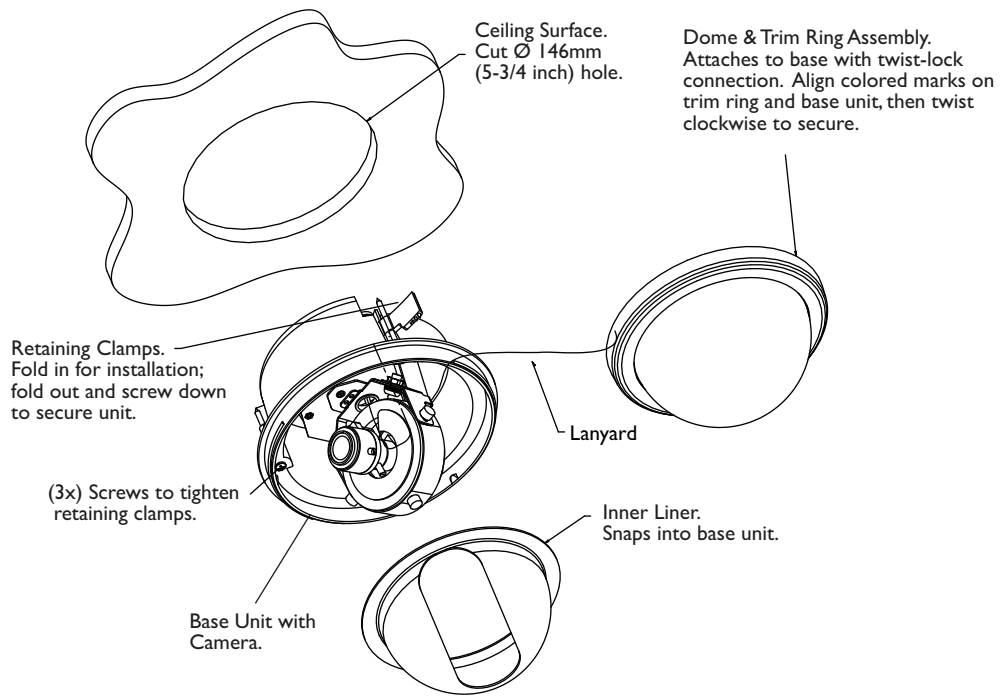

Figure 2 In-ceiling Installation
2. Install the base assembly box into the pre-cut hole until the base's flange hits the ceiling. Tighten the three screws that serve to lower the mounting clamps to grab on to the ceiling. Be sure the clamps are secure against the ceiling (see **Figure 2**).
4. Once the camera is positioned properly, install the black inner liner and align the viewing slot with the camera and lens (see **Figure 2**).
6. Once the camera is positioned properly, install the black inner liner and align the viewing slot with the camera and lens (see **Figure 2**).
7. Once the camera is positioned properly, install the black inner liner and align the viewing slot with the camera and lens (see **Figure 2**).